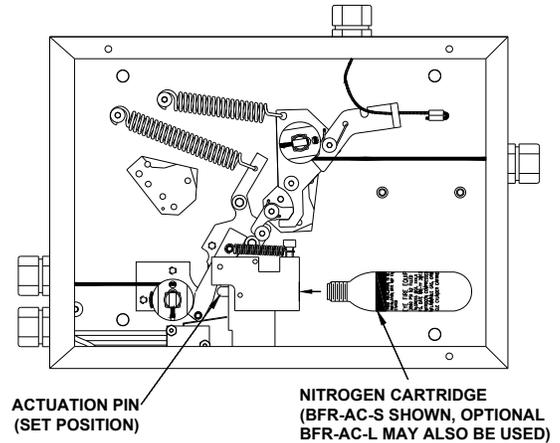

Figure 4-69
3. **ONLY** a Buckeye Nitrogen Actuation Cartridge may be used in the Systems Releasing Module(s). Carefully hand-tighten the Nitrogen Cartridge completely into the threaded hole of the Manifold Mounting Block. See **Figure 4-69**.